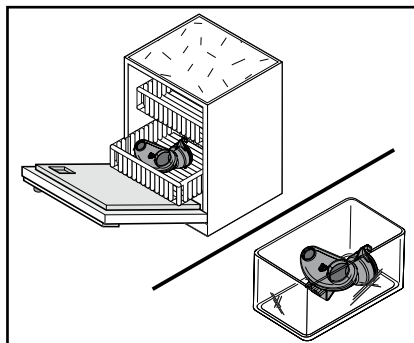

Fig. 28
- e. Clean the mixing bowl and the sealing ring (fig. 28):